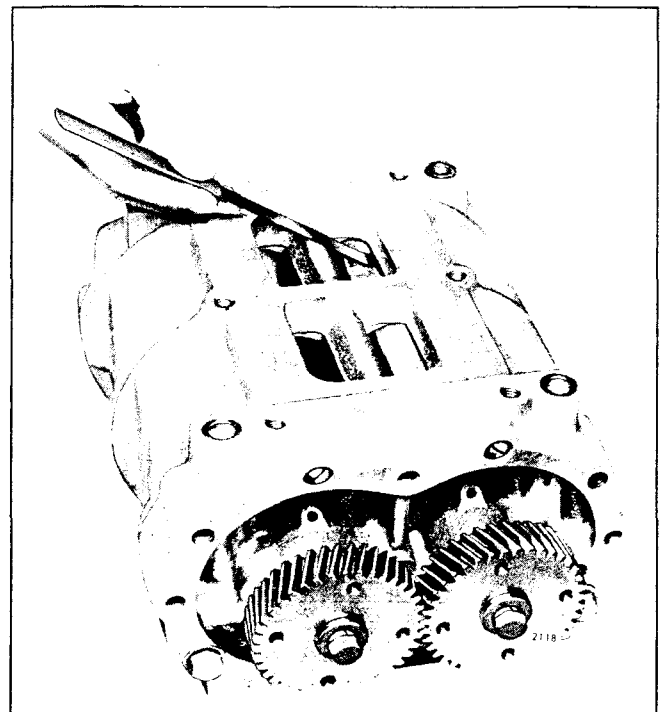
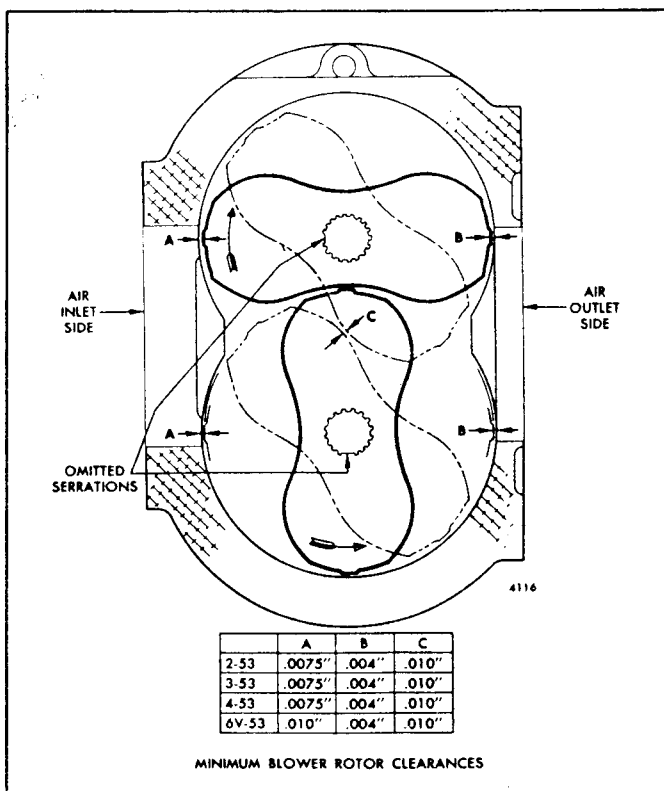

Fig. 14 - Measuring Rotor Lobe to Housing Clearance
Fig. 15 - Minimum Blower Rotor Clearance
8. Position the rotors so that the missing serrations on the gear end of the rotor shafts are 90° apart. This is accomplished by placing the rotors in a "T" shape, with the missing serration in the upper rotor facing to the left and the missing serration in the lower rotor facing toward the bottom (Fig. 14). Install the shims and spacers in the counterbore in the rear face of the rotor gears. Then place the gears on the ends of the
the housing as shown in Fig. 14. Take measurements across the entire length of each rotor lobe to be certain that a minimum clearance of .004" exists at the *air outlet side* of all blowers and a minimum clearance of .0075" (in-line engine blower) or .010" (6V engine blower) exists at the *air inlet side* of the blower (Fig. 15).
- b. Measure the clearance between the rotor lobes, across the length of the lobes, in a similar manner. By rotating the gears, position the lobes so that they are at their closest relative position (Fig. 15). The clearance between the lobes should be a minimum of .010".